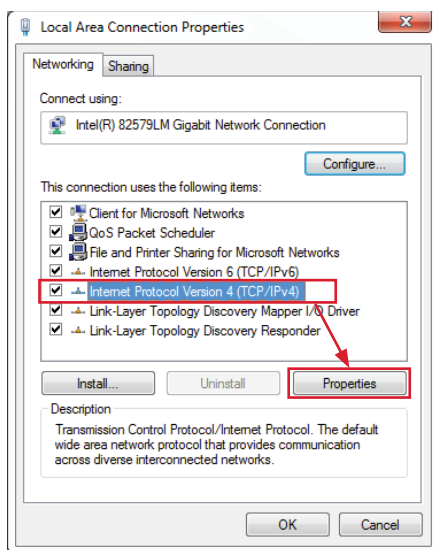

Fig. 3. Click Properties while "Internet Protocol Version 4" is selected.
- Highlight "Internet Protocol Version 4" and click **Properties** (→ fig. 3).